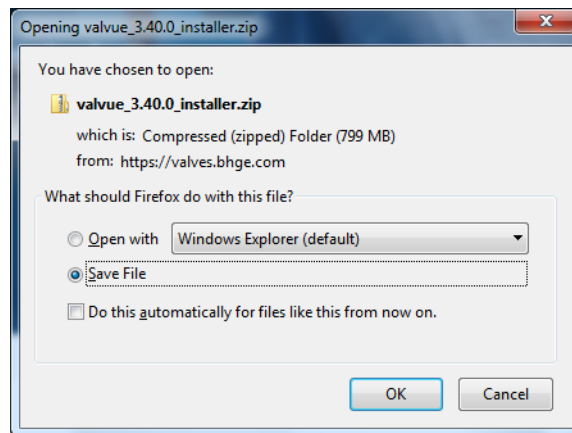

Figure 9 - Opening Dialog
2. Click **Download** below *ValVue Installer Download* and Figure 9 appears.